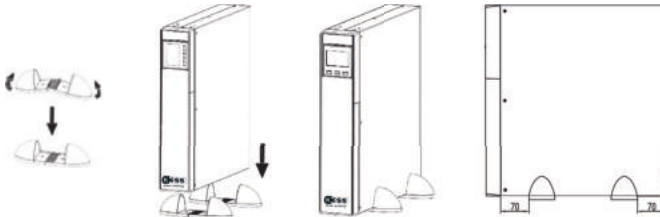

Fig.5: Vertical mounting (tower)
- Place the UPS upright between the 2 feet at a distance of 70 mm (from each end). See Fig. 5.